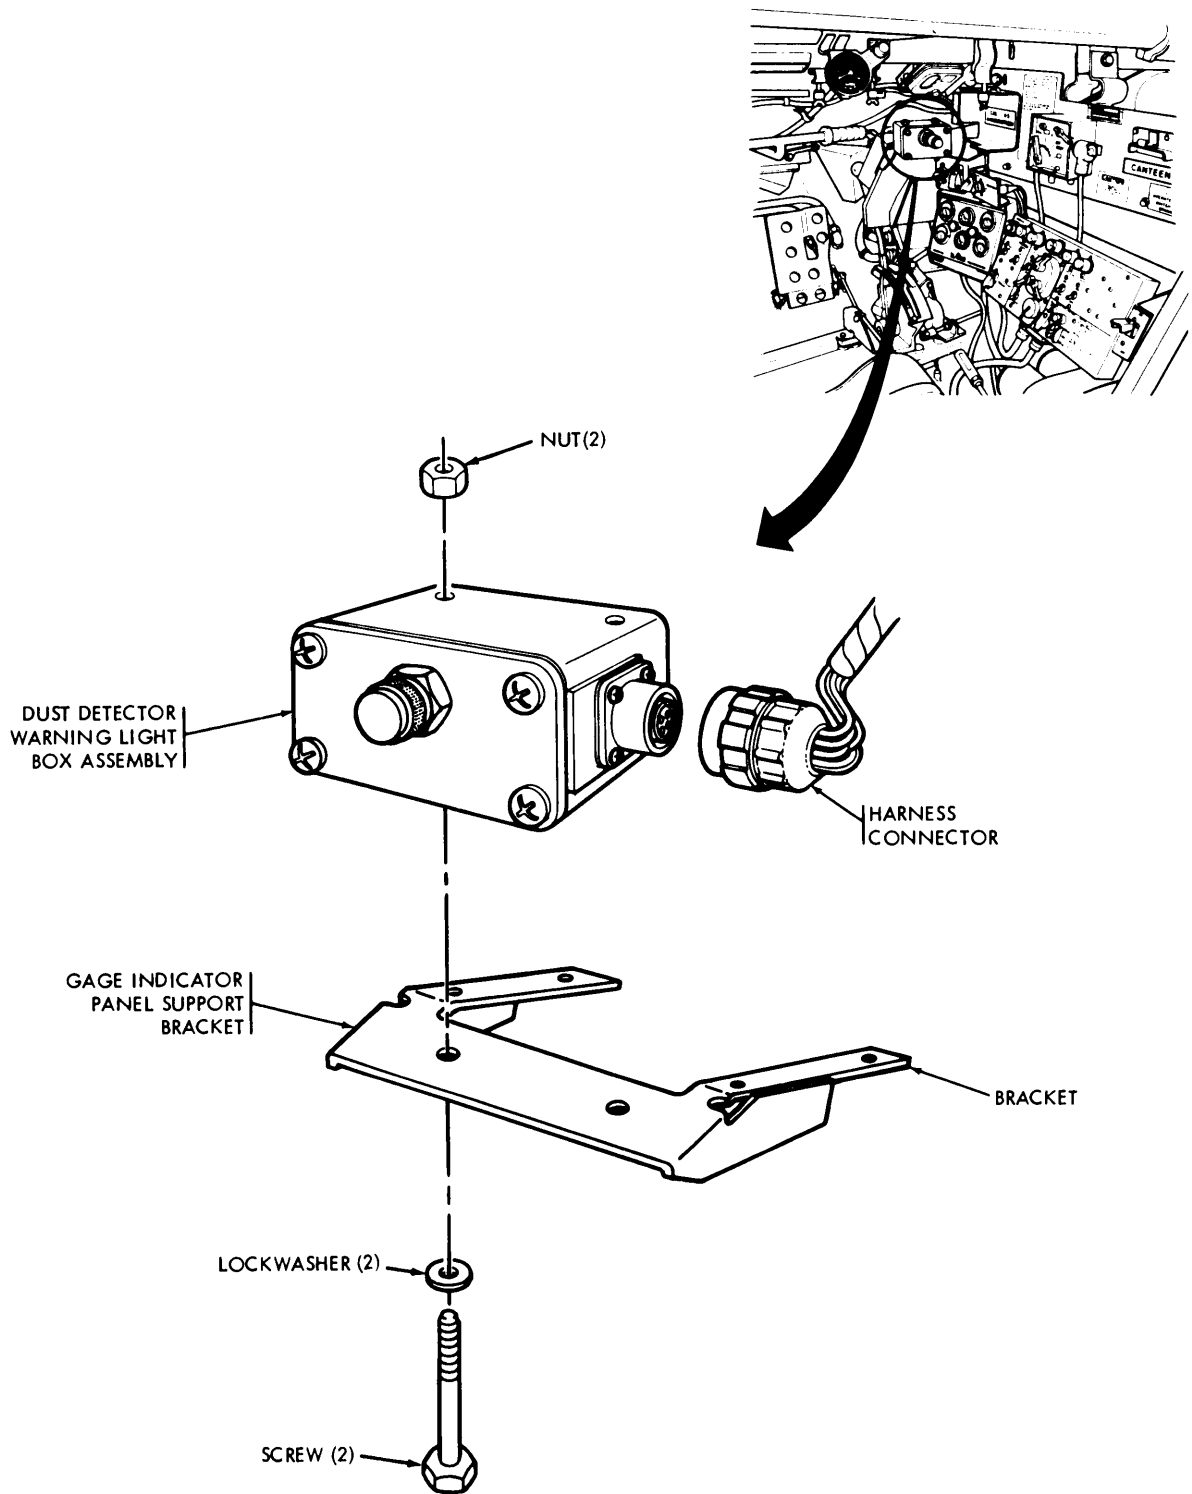

Figure 6-25. Dust detector warning light box assembly replacement (M728).
h. Dust Detector Warning Light Box Assembly Replacement (M728) (Fig. 6-25).
(1) Removal.
(2) Installation